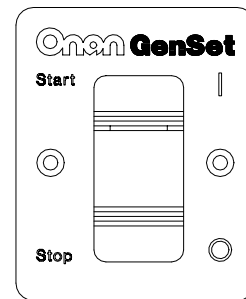

FIGURE 10. REMOTE SWITCH
- Remote switch / status lamp (Figure 10).